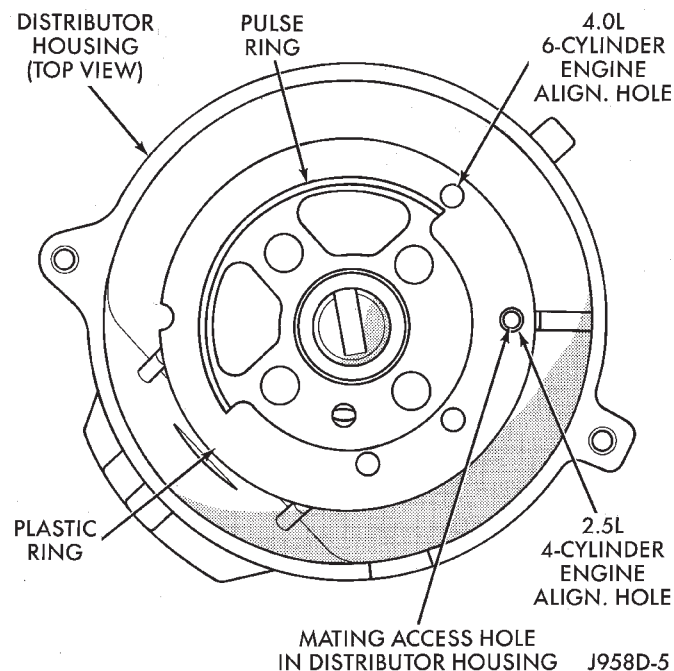

Fig. 44 Pin Alignment Holes—4.0L Engine
(4) If the original distributor is to be reinstalled, such as during engine overhaul, the plastic pin will not be available. A 3/16 inch drift pin punch tool may be substituted for the plastic pin.
(5) Remove the camshaft position sensor from the distributor housing. Lift straight up.
(6) Four different alignment holes are provided on the plastic ring (Fig. 44). **Note that 2.5L and 4.0L engines have different alignment holes (Fig. 44).**
(7) Rotate the distributor shaft and install the pin punch tool through the proper alignment hole in the
plastic ring (Fig. 44) and into the mating access hole in the distributor housing. This will prevent the distributor shaft and rotor from rotating.